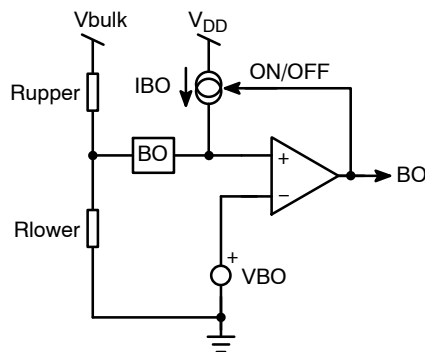

Figure 40. The Internal Brown-out Configuration with an Offset Current Source
The Brown-Out circuitry (BO) offers a way to protect the resonant converter from low DC input voltages. Below a given level, the controller blocks the output pulses, above it, it authorizes them. The internal circuitry, depicted by Figure 40, offers a way to observe the high-voltage (HV) rail. A resistive divider made of R_{upper} and R_{lower} brings a portion of the HV rail on Pin 5. Below the turn-on level, the $28\ \mu\text{A}$ current source IBO is off. Therefore, the turn-on level solely depends on the division ratio brought by the resistive divider.